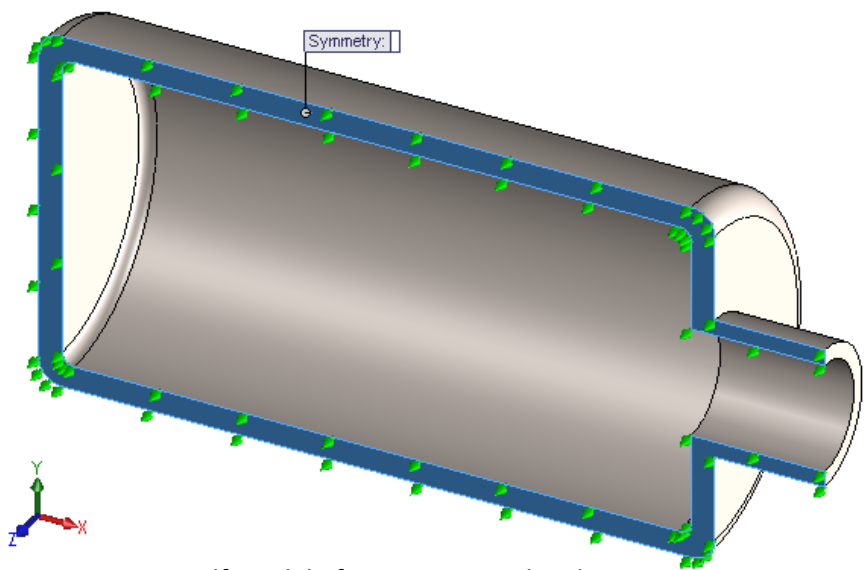

Figure 2 – Half-model of pressure vessel with symmetry restraints applied in the Z-direction.
3. Select the front surface highlighted in Fig. 2.